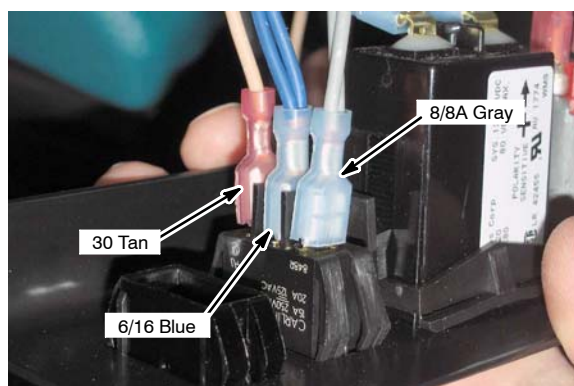

Fig. 27
11. Connect wires 8/8A Gray, 6/16 Blue and 30 Tan to the *ec-H2O* on/off Switch as shown (Figure 27).